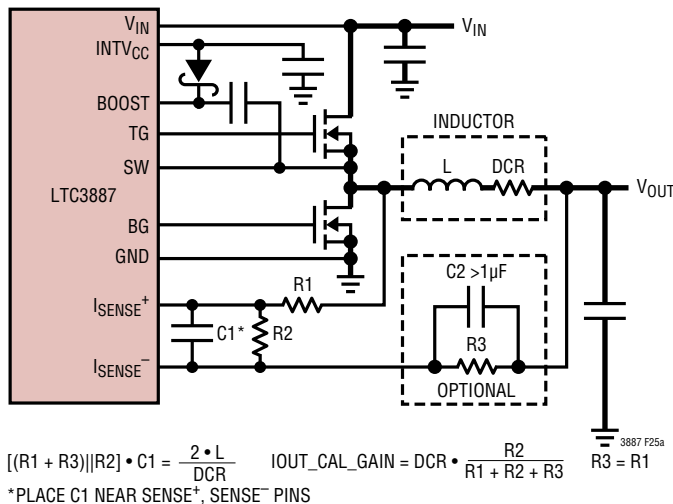

Figure 25a. Inductor DCR Current Sense Circuit
sharing between power stages. If DCR sensing is used (Figure 25a), sense resistor R1 should be placed close to the switching node (SW) to prevent noise from coupling into sensitive small-signal nodes. The capacitor C1 should be placed close to the IC pins. This impedance difference can result in loss of accuracy in the current reading of the ADC. The current reading accuracy can be improved by matching the impedance of the two I_{SENSE} inputs. To accomplish this add a series resistor between V_{OUT} and I_{SENSE}^- equal to R1. A capacitor of $1\mu\text{F}$ or greater should be placed in parallel with this resistor. If the peak voltage is $<75\text{mV}$ at room temperature, R2 is not required.
For applications requiring the highest possible efficiency at high load currents, the LTC3887 is capable of sensing the voltage drop across the inductor DCR, as shown in Figure 25a. The DCR of the inductor represents the small amount of DC winding resistance of the copper, which can be less than 1mΩ for today's low value, high current inductors. In a high current application requiring such an inductor, conduction loss through a sense resistor would cost a few points of efficiency compared to DCR sensing.
C1 is usually selected to be in the range of 0.047µF to 4.7µF. This forces $R1||R2$ to be approximately 2k. This resistance minimizes errors caused by the SENSE pin leakage currents. Adding optional elements R3 and C2 shown in Figure 25a will minimize offset errors associated with these leakage currents.